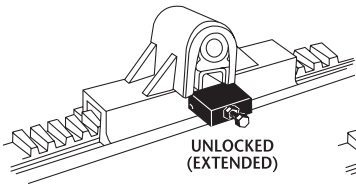

Figure 4a
4. Visually check that both plungers are fully extended, as shown in Figure 4a.